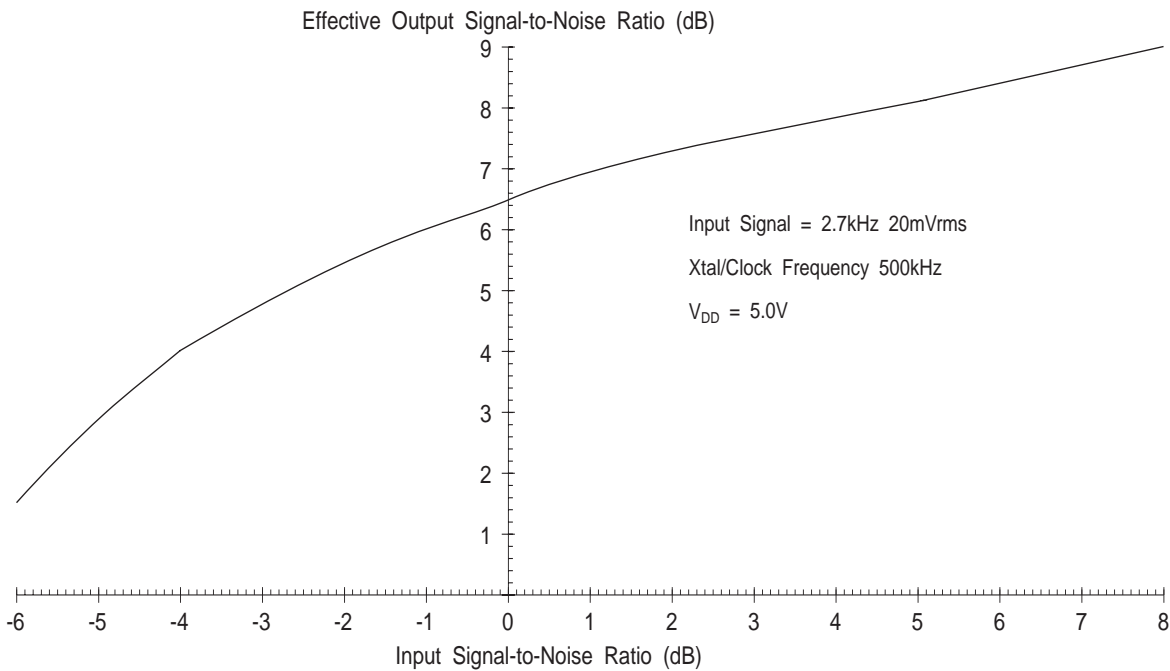

Figure 5: Enhancement of Signal-To-Noise Ratio
1. The graph shown in Figure 5 illustrates the signal-to-noise enhancement that can be obtained, under varying input conditions, from the MX102.